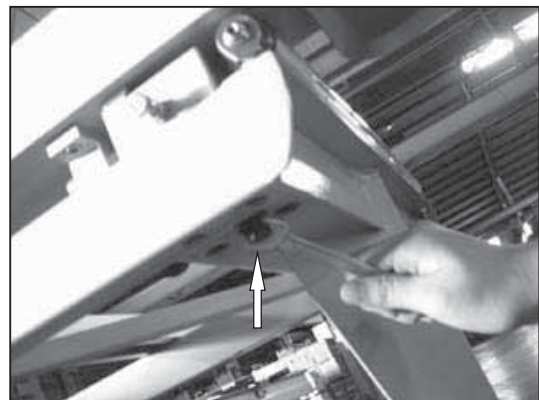
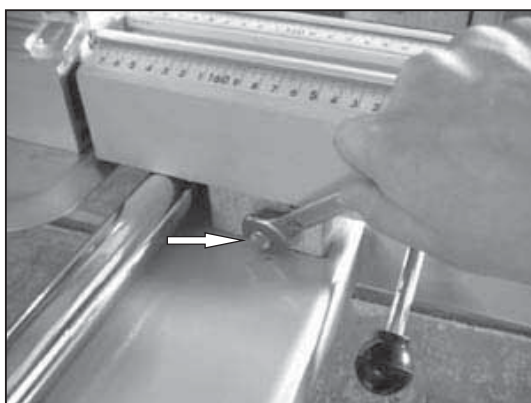

Fig.2
Fig.3
3. Measure the diagonal's error of the wood board to proceed adjustment Fig.2 parts, lock the nut Fig.3 after adjustment.